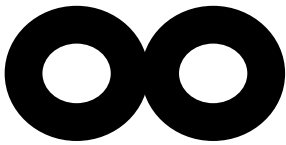
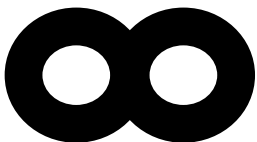

Fig. 1: CORRECT OVERLAP with Angle Knob at 7 o'clock Position.
Fig. 3: INCORRECT OVERLAP with Angle Knob at 7 o'clock Position.
3. Turn Angle Knob clockwise until indicator mark is at 7 o'clock position. If HW1000 or HW1500 Honing Wheels overlap 1/16" or LESS (**Fig. 1**) turn Angle Knob counterclockwise until indicator mark is at 4 o'clock position between White & Blue Dots & begin Step 6.
4. If HW1000 or HW1500 Honing Wheels are NOT OVERLAPPED (**Fig. 2**) with Angle Knob indicator mark at 7 o'clock position, turn Angle Knob counterclockwise one revolution until indicator mark is at 7 o'clock position. Repeat this step until overlap is 1/16" or LESS (**Fig. 1**) with Angle Knob indicator mark at 7 o'clock position. Turn Angle Knob counterclockwise until indicator mark is at 4 o'clock position between White & Blue Dots & begin Step 6.
5. If HW1000 or HW1500 Honing Wheels overlap MORE than 1/16" (**Fig. 3**) with Angle Knob indicator mark at 7 o'clock position, turn Angle Knob clockwise one revolution until indicator mark is at 7 o'clock position. Repeat this step until overlap is 1/16" or LESS (**Fig. 1**) with Angle Knob indicator mark at 7 o'clock position. Turn Angle Knob counterclockwise until indicator mark is at 4 o'clock position between White & Blue Dots & begin Step 6.